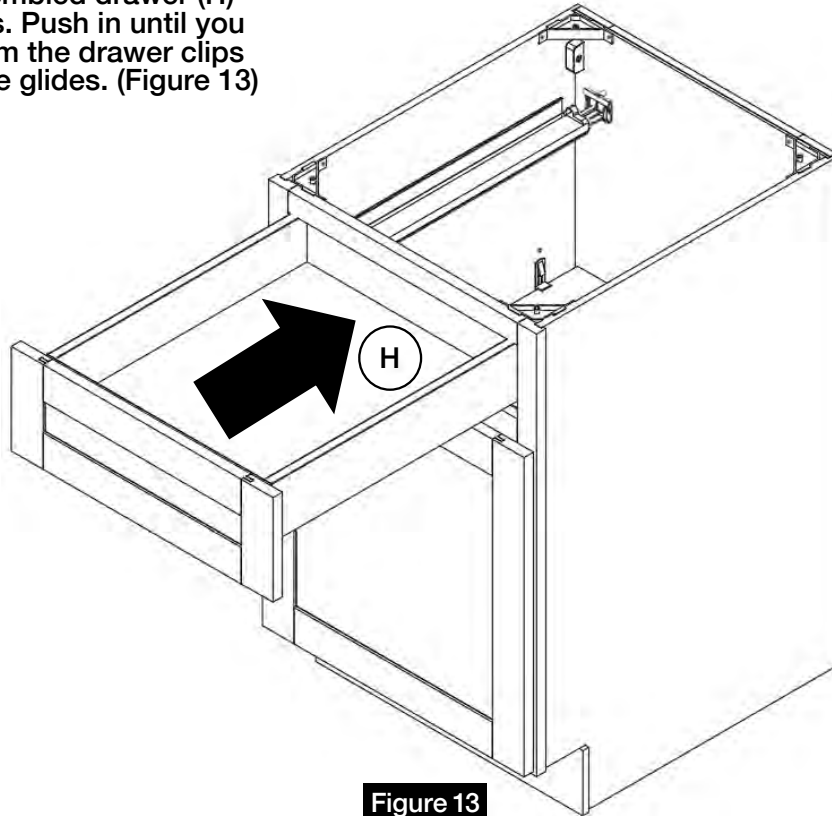

Figure 13
Insert the assembled drawer (H) onto the glides. Push in until you hear clicks from the drawer clips locking into the glides. (Figure 13)